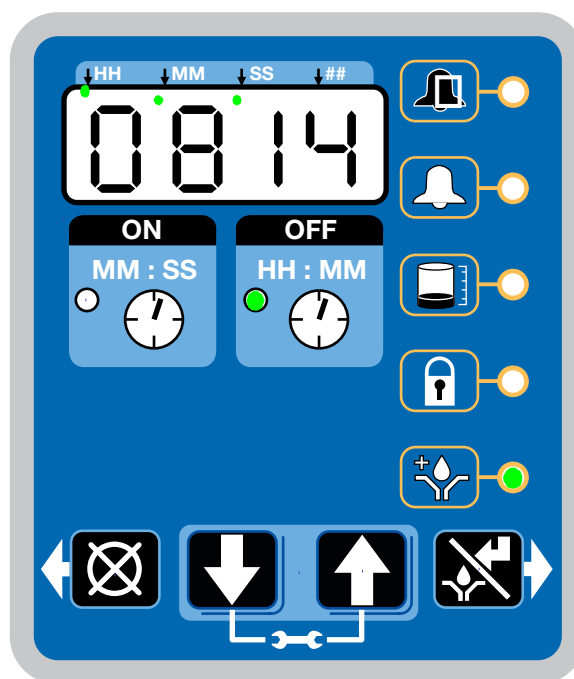

FIG. 35
- The LED next to the clock in the OFF field is illuminated (FIG. 35).
- The Prelube LED lights (FIG. 35).
- The display shows time remaining until lubrication cycle begins. The example shown in FIG. 35 shows 8 minutes and 14 seconds left until a lubrication cycle begins.